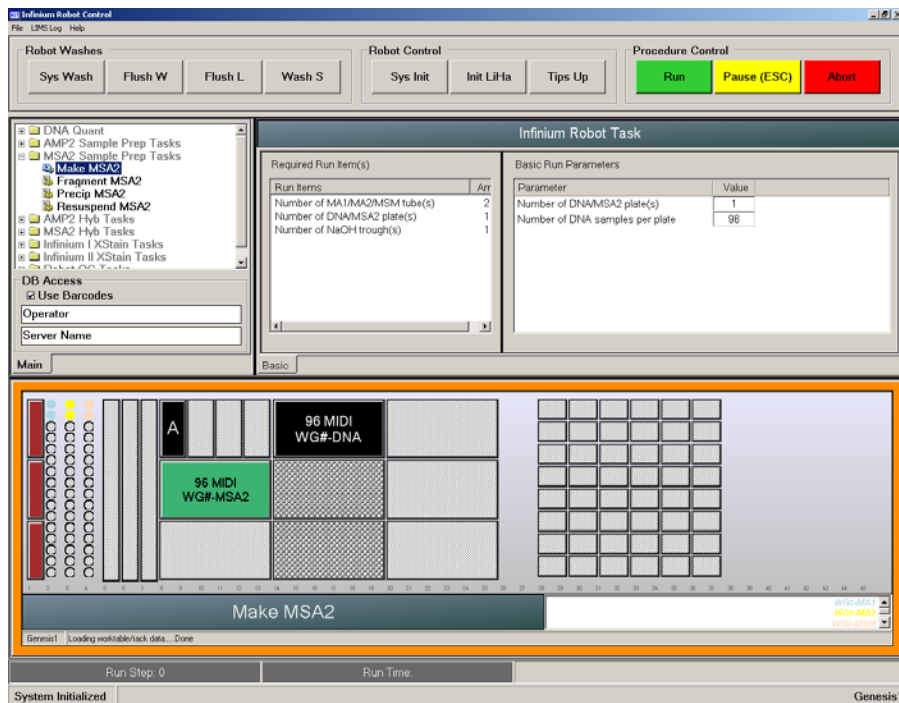

Figure 90 Make MSA2 Screen
5. Place the WG#-DNA and MSA2 plates on the robot bed according to the bed map (Figure 90).
7. Add 15 ml NaOH to the quarter reservoir, then place the reservoir on the robot bed according to the bed map (Figure 90).